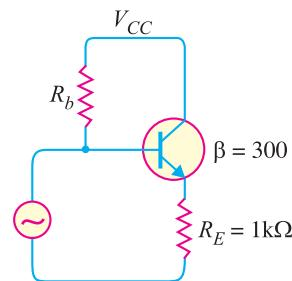

Fig. 13.31
7. In Fig. 13.31, if input and output impedances without feedback are  $2 \text{ M}\Omega$  and  $500 \Omega$  respectively, find their values after negative voltage feedback. **[302MΩ; 1.6Ω]**